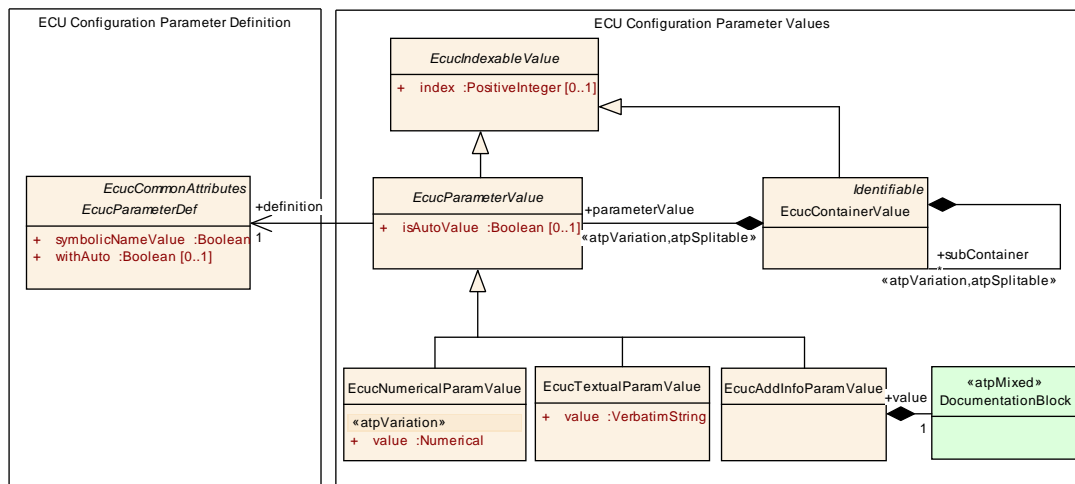

Figure 2.27: Parameter description
**[TPS\_ECUC\_03006] `EcucParameterValue` is the base class for all parameter values** [ All metamodel classes specifying parameter values are derived from `EcucParameterValue` (see figure 2.27). ]()